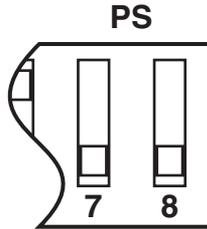
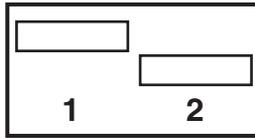

Figure 3-1a. ID Number DIP Switch
Figure 3-1b. PS DIP Switch ON.
For PS/2 (PS), position DIP Switch 7 and 8 in the downward direction. See **Figure 3-1a** and set the PC/PS switch as shown in **Figure 3-1b**.